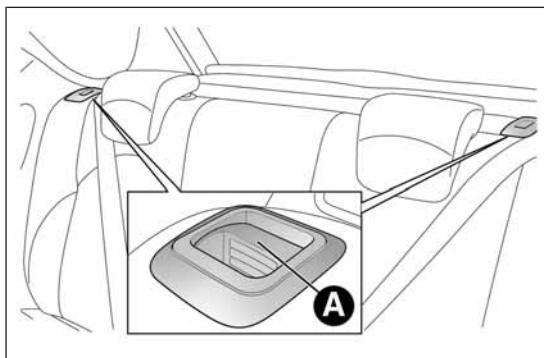

fig. 67
- ❑ lift the backrest retaining levers A fig. 67 and fold the desired cushion forwards (a red band indicates that lever A is raised).
Raise the previously folded backrest until you hear the click of the locking mechanism, visually checking that the red band on lever A fig. 67 has disappeared. The red band indicates that the backrest is not secured.